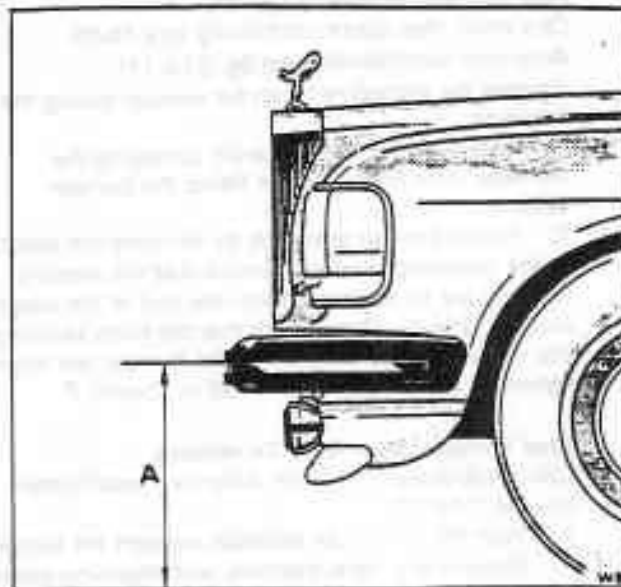

Fig. S14-9 Bumper height
3. Position the car on a level surface. Measure the bumper height from the level surface to the position shown in figure S14-9.
4. If the bumper height is below the minimum limit specified in figure S14-9, carry out the following procedures taking the necessary corrective action.